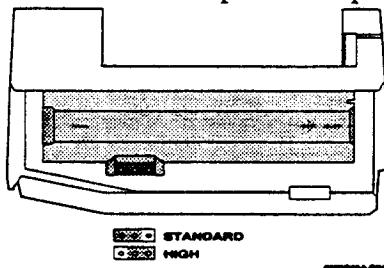

Figure 17. Sensitivity Pins Locations
2. The two sensitivity pins are located under the battery on the right side of the PIR when looking at the front of the PIR. The sensor is set to standard sensitivity at the factory. To change this to high sensitivity move the shorting jumper to the pair of pins that are closer to the top of the PIR (see Figure 17.). If the shorting jumper is not used or placed incorrectly, the sensor defaults to